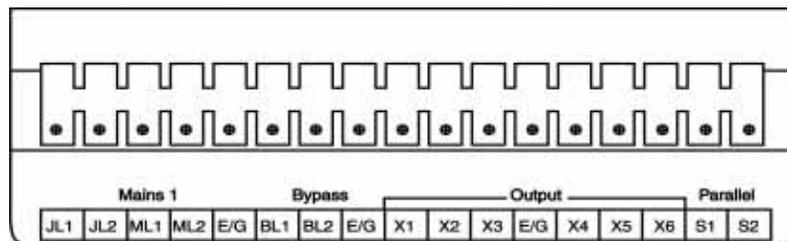

Fig. 8: Terminal Block
- If the UPS is supplied by a single source, connect jumpers from JL1 to BL1 and from JL2 to BL2. Input is connected to Main Line (ML1 & ML2) terminals. See Figure 8.
- If the bypass input is supplied separately, connect bypass line to the Bypass (BL1 & BL2) terminals. Input is connected to Main Line (ML1 & ML2) terminals. Do not connect jumpers to JL1 or JL2. See Figure 8.
7. If UPS is to be operated as single unit connect a jumper between S1 and S2. See Figure 8.